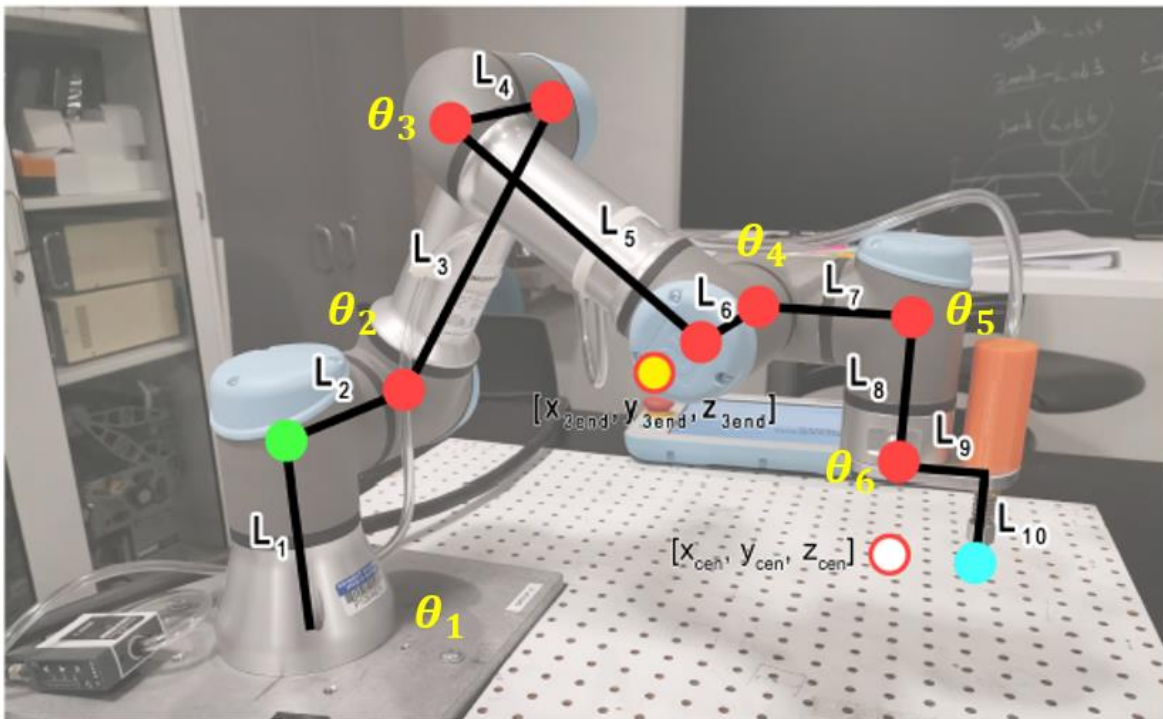
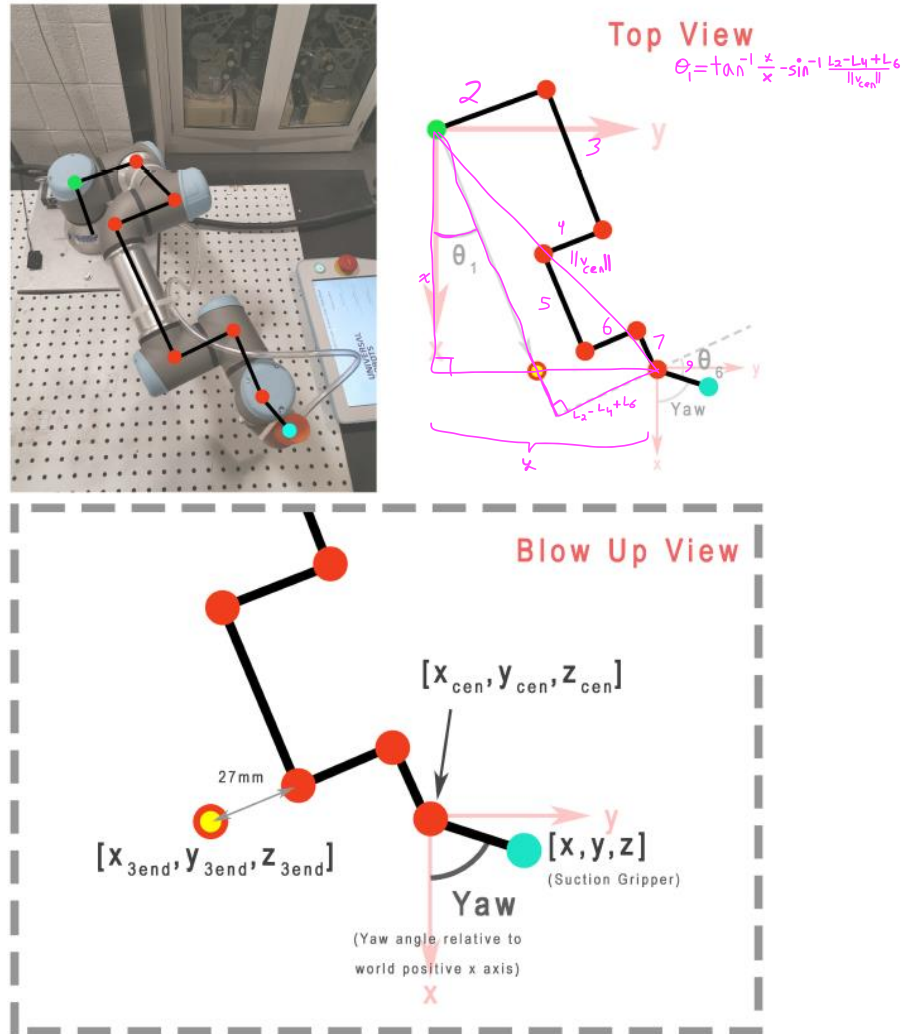

Figure 1. Joints and links of UR3
Figure 3. Top view of UR3
The joints and links of the UR3 robot are annotated in Figure 1. The goal is to find the rotation angles of the 6 joints ($\theta_1, \dots, \theta_6$), so that the end-effector (end of Link 10) can reach to a given position ($x_{grip}, y_{grip}, z_{grip}$) and orientation $\{\theta_{yaw}, \theta_{pitch}, \theta_{roll}\}$ input by the user.
2. We will define a "wrist center" as z_{cen} which equals the same desired z value of the vacuum gripper, and x_{cen}, y_{cen} are the coordinates of θ_6 's z axis (see Figure 1). Link 9 (gripper plate) has a length of 0.0535 meters from the center line of the gripper to the center line of Joint 6. Given the desired position of the gripper $(x_{grip}, y_{grip}, z_{grip})$ in the base frame and the yaw angle, find wrist's center point $(x_{cen}, y_{cen}, z_{cen})$.
3. Given the wrist's center point $(x_{cen}, y_{cen}, z_{cen})$, find the waist angle θ_1 . Figure 3 shows the top-down view of the robot, which is helpful for formulating the relations.
5. We will define another virtual point. A projected end point $(x_{3end}, y_{3end}, z_{3end})$ is a point off the UR3 but lies along the Link 6 axis, as shown in Figure 1 and Figure 3. For example, if $\theta_1 = 0$ then $y_{3end} = 0$. If $\theta_1 = 90^\circ$ then $x_{3end} = 0$. Use the top-down view (Figure 3) to find x_{3end} and y_{3end} from x_{cen}, y_{cen} . Figure 4 is a side view that is a projection of the robot onto a plane perpendicular to the x-y plane of world frame and rotated by θ_1 about the base frame. From this figure we can see that z_{3end} is z_{cen} offset by a constant. The end of the gripper is 0.052m from the center of the gripper plate in the z-axis direction.